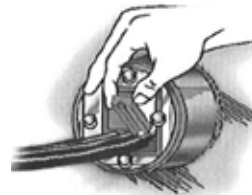

Figure 3
5. Blocks are placed in position (Figure 3)